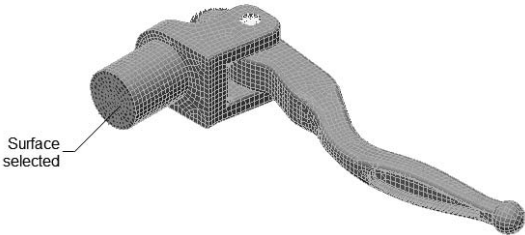

Figure 8-98 Surface selected for applying the fixed constraint
1. Select the surface of the model for applying the fixed constraint, refer to Figure 8-98.